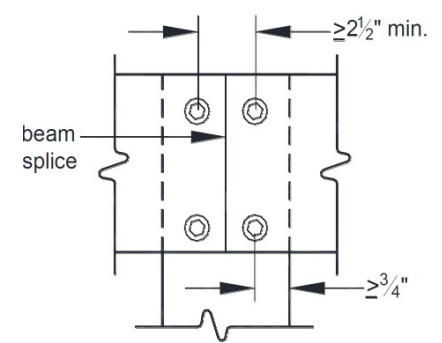

FIGURE 4 – BEAM SPLICE
- Single and two-ply beams shall be attached to 6x6 posts using the methods shown in Figure 2, Figure 3, and Figure 4.
- Beam plies are permitted to have splices located at a post as shown in Figure 4.